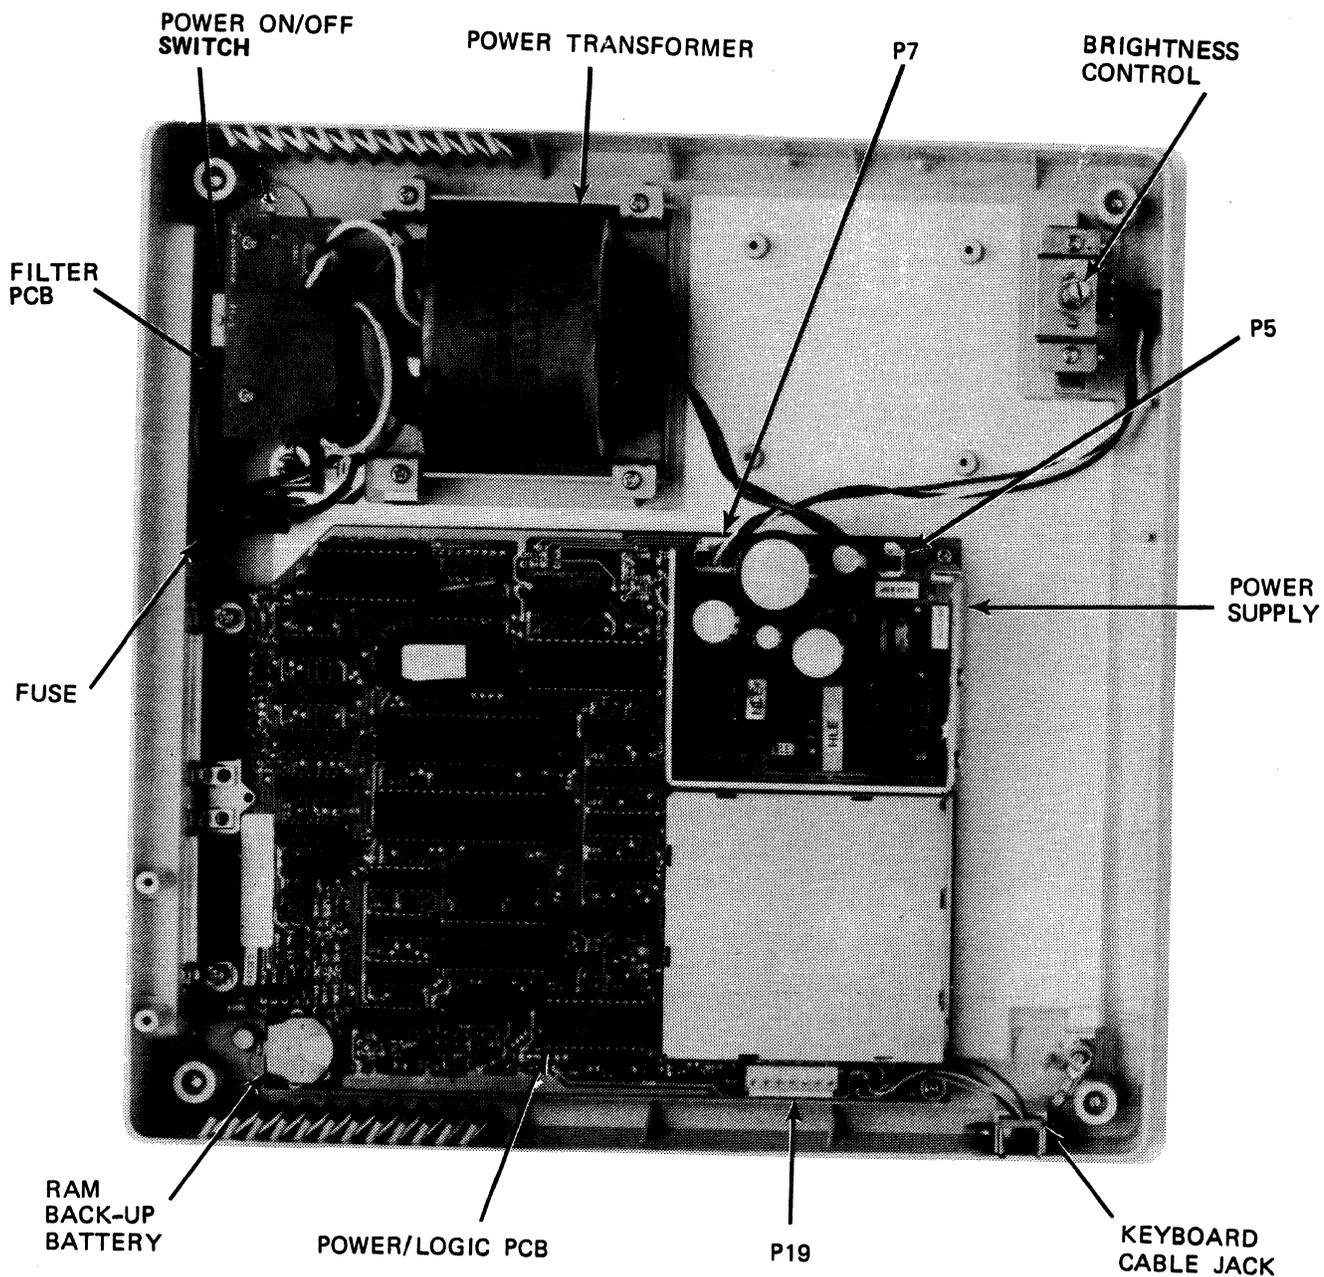

Figure 2-6. Lower Monitor Area
The Lower Monitor Area contains the following subassemblies. See Figure 2-6.
2. Disconnect the following connectors from the Power/Logic PCB. See Figure 2-6.
2. Disconnect the brightness control connector (P7) from the Power/Logic PCB. See Figure 2-6.